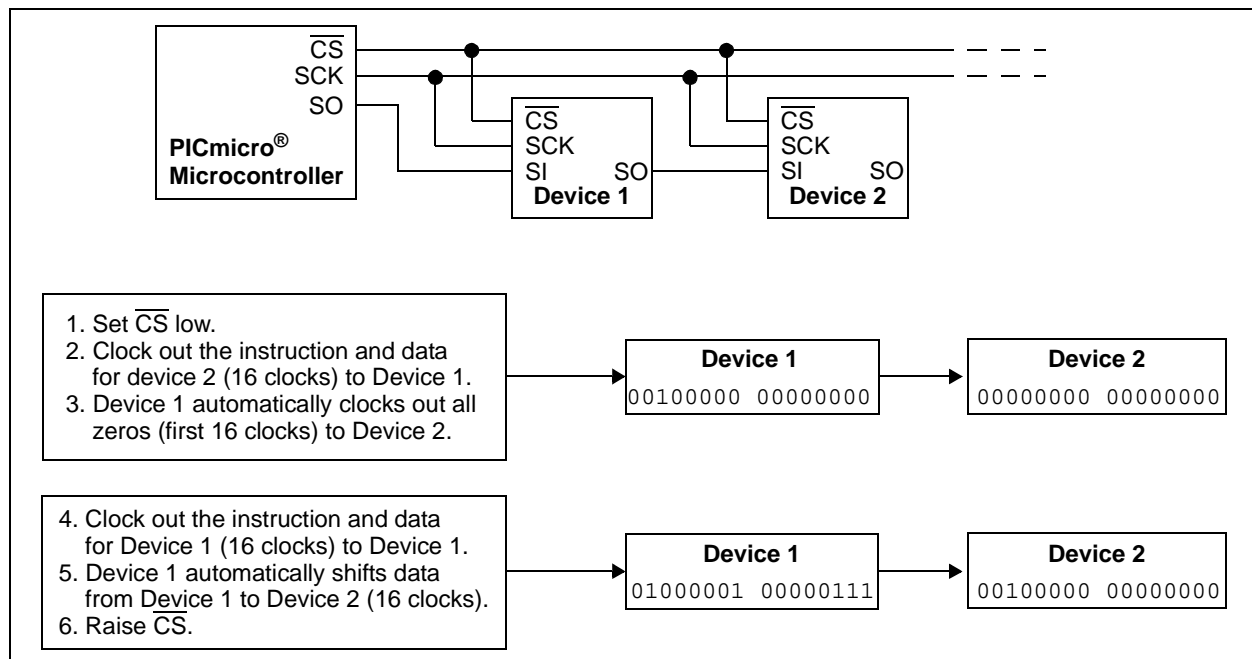

FIGURE 5-3: Daisy-Chain Configuration.
Multiple MCP6S91/2/3 devices can be connected in a daisy-chain configuration by connecting the SO pin from one device to the SI pin on the next device and using common SCK and \overline{CS} lines (Figure 5-3). This approach reduces PCB layout complexity and uses fewer PICmicro® microcontroller I/O pins.
The example in Figure 5-3 shows a daisy-chain configuration with two devices, although any number of devices can be configured this way. The MCP6S91 and MCP6S92 can only be used at the far end of the daisy-chain, because they do not have a serial data out (SO) pin. As shown in Figure 5-4 and Figure 5-5, both SI and SO data are sent in 16-bit (2 byte) words. These devices abort any command that is not a multiple of 16 bits.